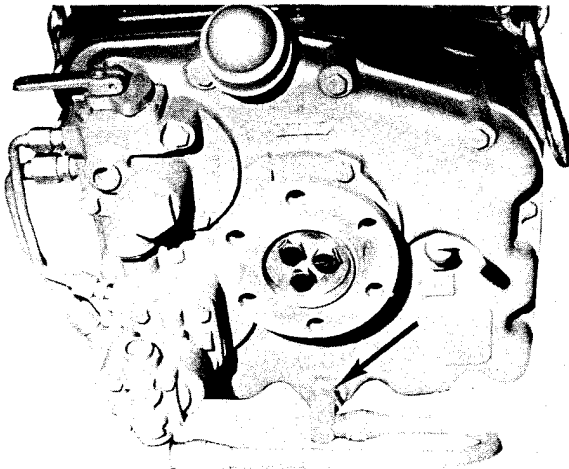

Fig. 2-11, (V11959). Twin Disc marine gear drain point
1. Gravity Drain — Remove suction line from bottom of gear housing. Drain all oil into a suitable container. Install suction line. Fig. 2-11.